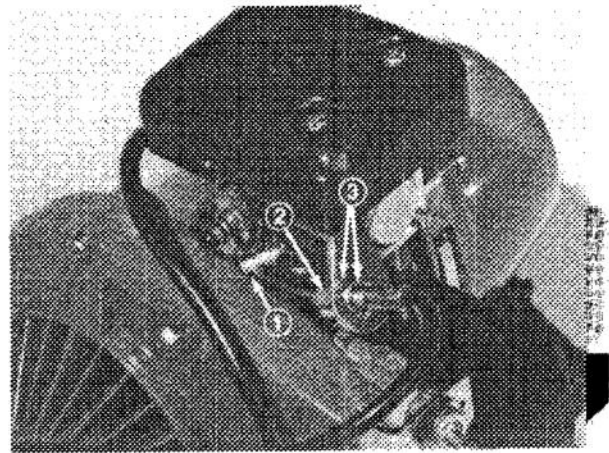

Figure 14
1. Position swivel on carburetor so slot is toward bracket and hole is on opposite side (Fig. 14).
2. Hook ball end of cable into hole in swivel, slip the flats on locknut into slot in bracket, hold locknut into bracket and tighten nut so locknut is held securely in bracket by nut and flatwasher (Fig. 14).